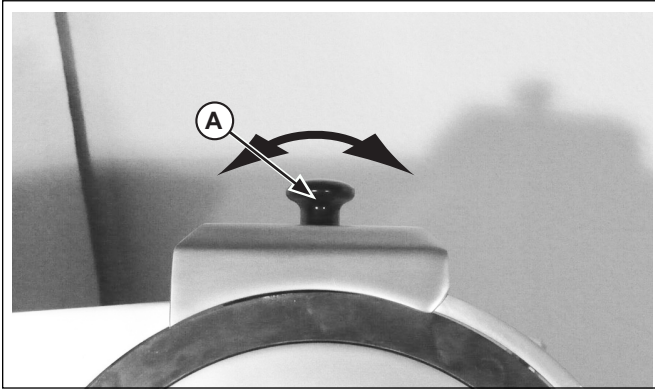

Figure 4. Knife Sharpening Assembly
6. Lift the knife sharpening assembly (A) and rotate it 90°, then lift to remove it. See Figure 4.
16. Install the carriage tray shaft. See Figure 4.